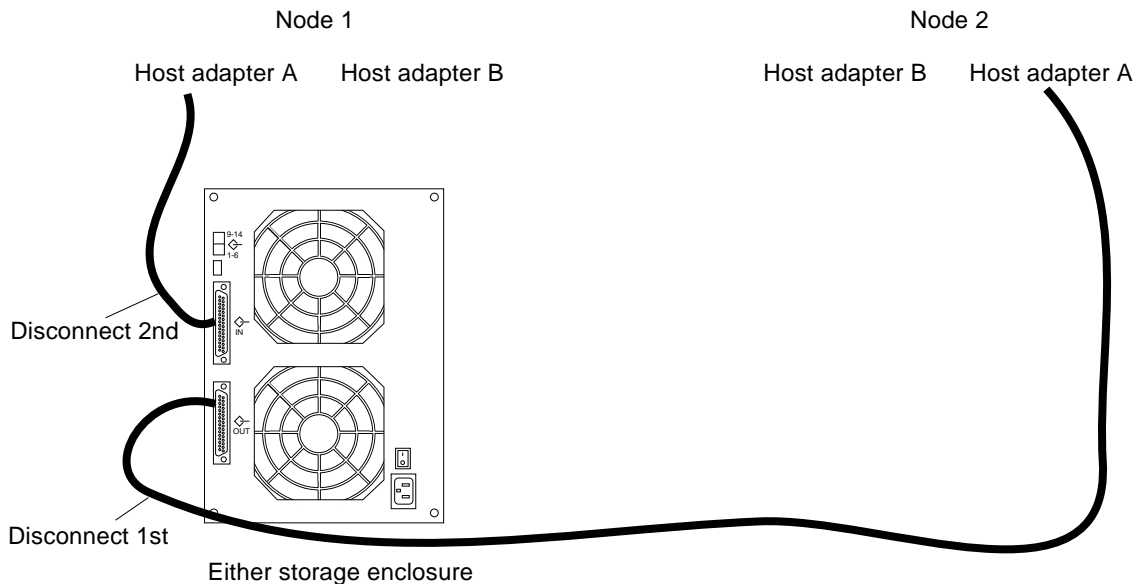

FIGURE 4-4 Disconnecting the SCSI Cables
3. Disconnect the SCSI cables from the StorEdge MultiPack enclosure, disconnecting the cable on the SCSI OUT connector first, then the cable on the SCSI IN connector second (see FIGURE 4-4).
6. **Connect the SCSI cables to the new StorEdge MultiPack enclosure, reversing the order in which you disconnected them (connect the SCSI IN connector first, then the SCSI OUT connector second). See FIGURE 4-4.**